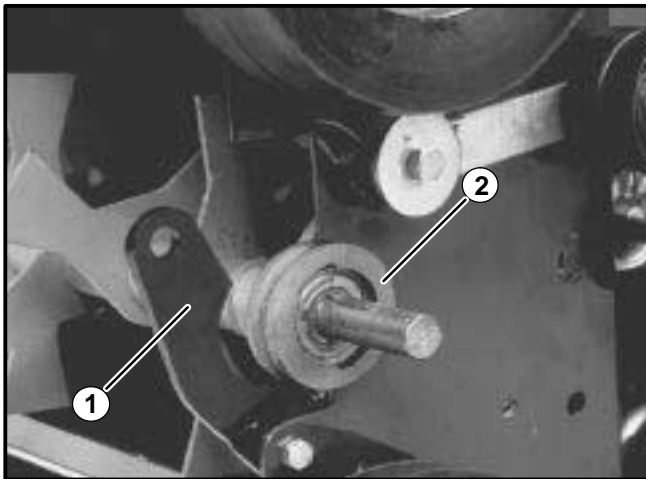

FIGURE 2
2. Loosen the reel clamps and pivot down and away from chassis. With the pulley end toward the engine side of unit, set the reel into place against the chassis. Bearing guides on the reel will provide correct alignment. See Figure 2.